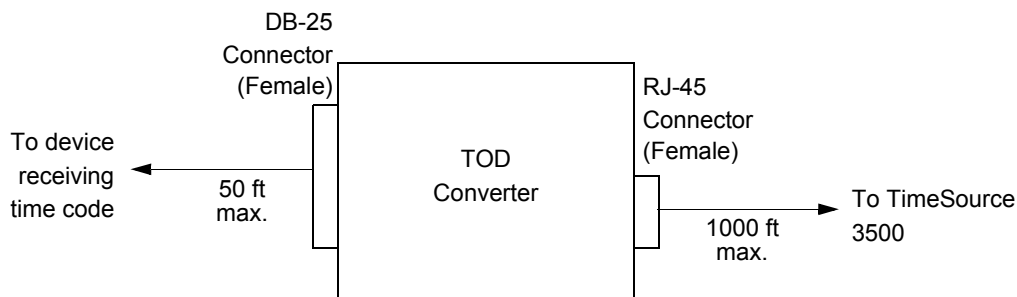

Figure 3-24. RS-422-to-RS-232 TOD Converter Connections
3. Install a user-supplied Category 5 four-pair RS-422 cable, with RJ-45 connectors on each end, between the TimeSource 3500 Shelf and the converter (see Figure 3-24).
4. Install a user-supplied RS-232 cable, with DB-25 connectors on each end, between the converter and the device receiving the time code (see Figure 3-24). See Table 3-3 for the DB-25 connector pinouts.